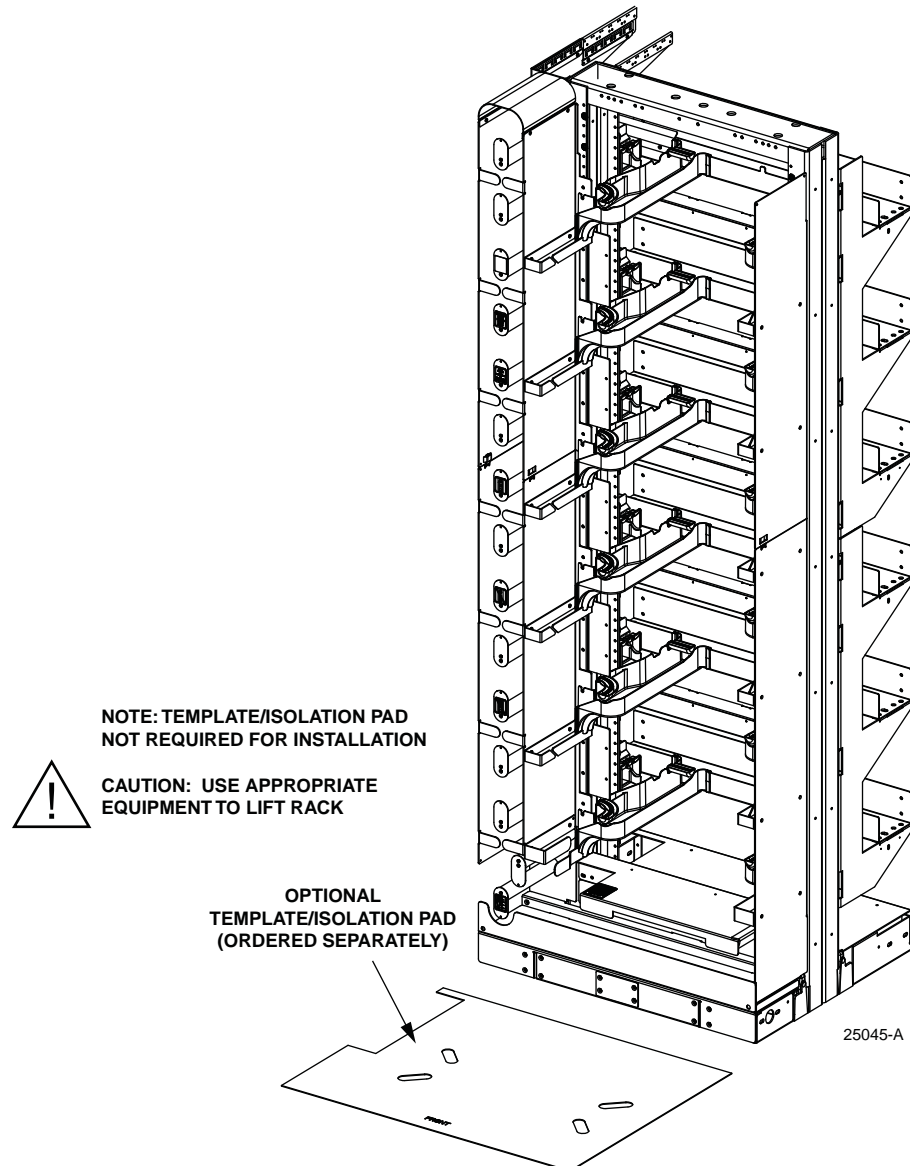

Figure 3. Setting Out Frame and Optional Template/Isolation Pad
2. Set out the frame and optional template/isolation pad as shown in Figure 3.